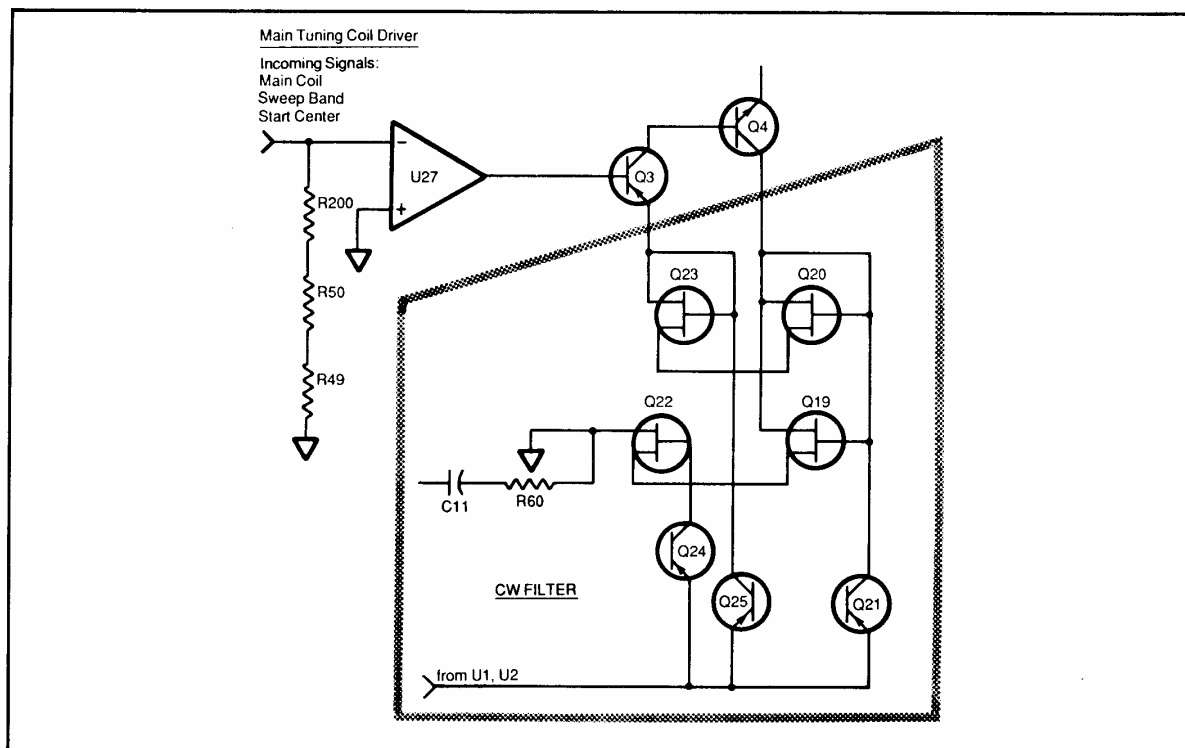

Figure 8-43. Main Tuning Coil Driver and CW Filter Circuitry
1. The Main Tuning Coil Driver circuit operates as a voltage-to-current converter. Three signals--Main Coil Sweep, Band Start, and Center--are summed at the inverting input of U27 (Figure 8-43). The U27 output controls the current to the YIG main coil via transistor Q4.